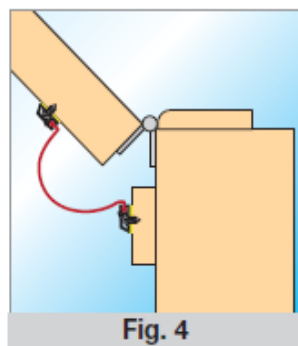

Fig. 4
- 9 Clip screw cap cover in place (see fig 4)